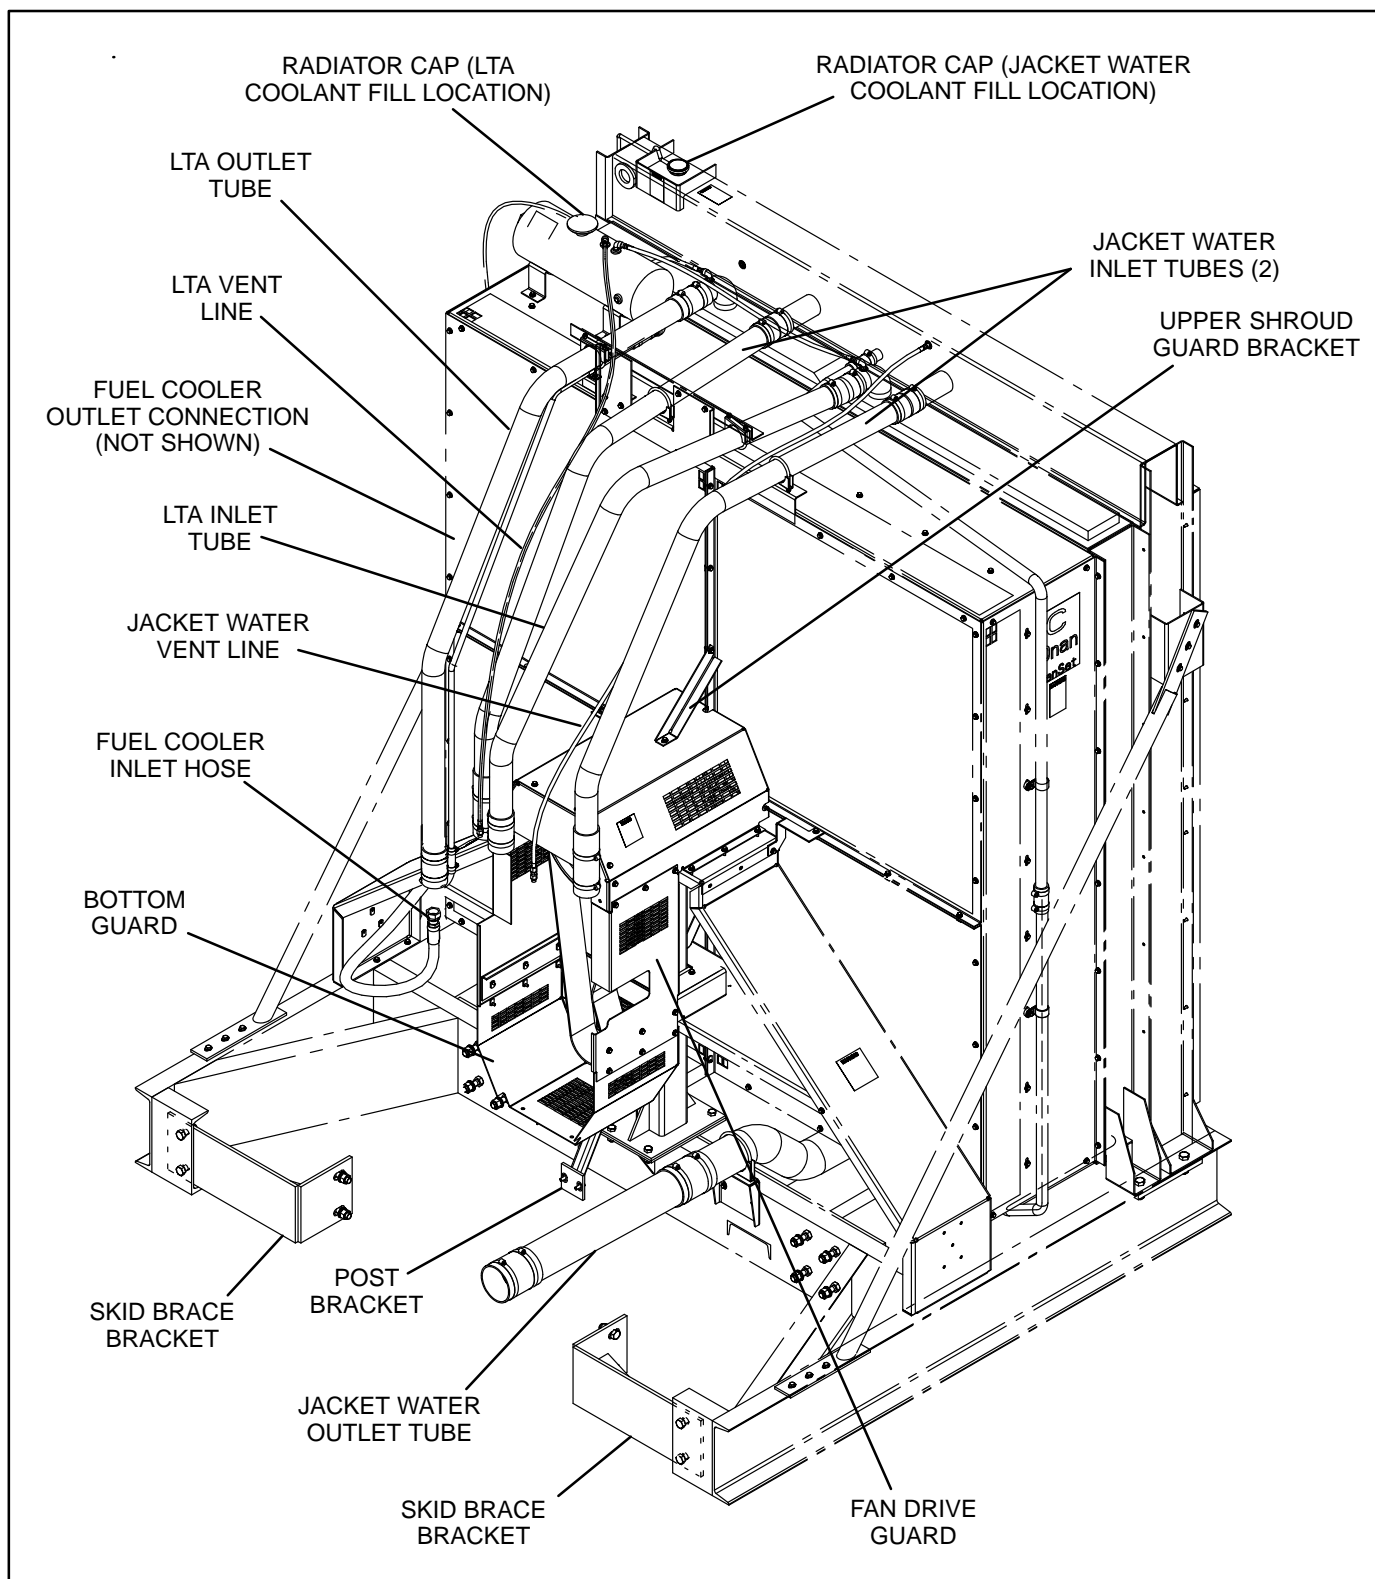

FIGURE 9-1. COOLING SYSTEM INSTALLATION
1. Position the bottom guard around engine drive pulley (Figure 9-1). Attach the post bracket to the engine skid (do not tighten post bracket hardware) and allow bottom guard to rest on post bracket.
3. Fasten the two skid brace brackets to the radiator skid with the hardware provided (M20 x 60mm and M20 flat washer, lock-spring washer, and nut). See Figure 9-1. (Mount brackets to side of skid facing radiator.)